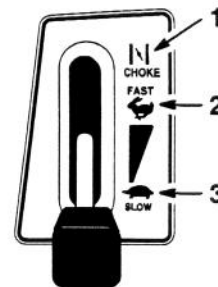

Figure 9
4. Move the throttle lever to “CHOKE” (Fig. 9).
6. After the engine starts, slowly move the throttle lever to “FAST” (Fig. 9). If the engine stalls or hesitates, move the throttle lever back to “CHOKE” for a few seconds. Then move the throttle lever to “FAST.” Repeat this as required.
1. Move the throttle lever to “SLOW” (Fig. 9).